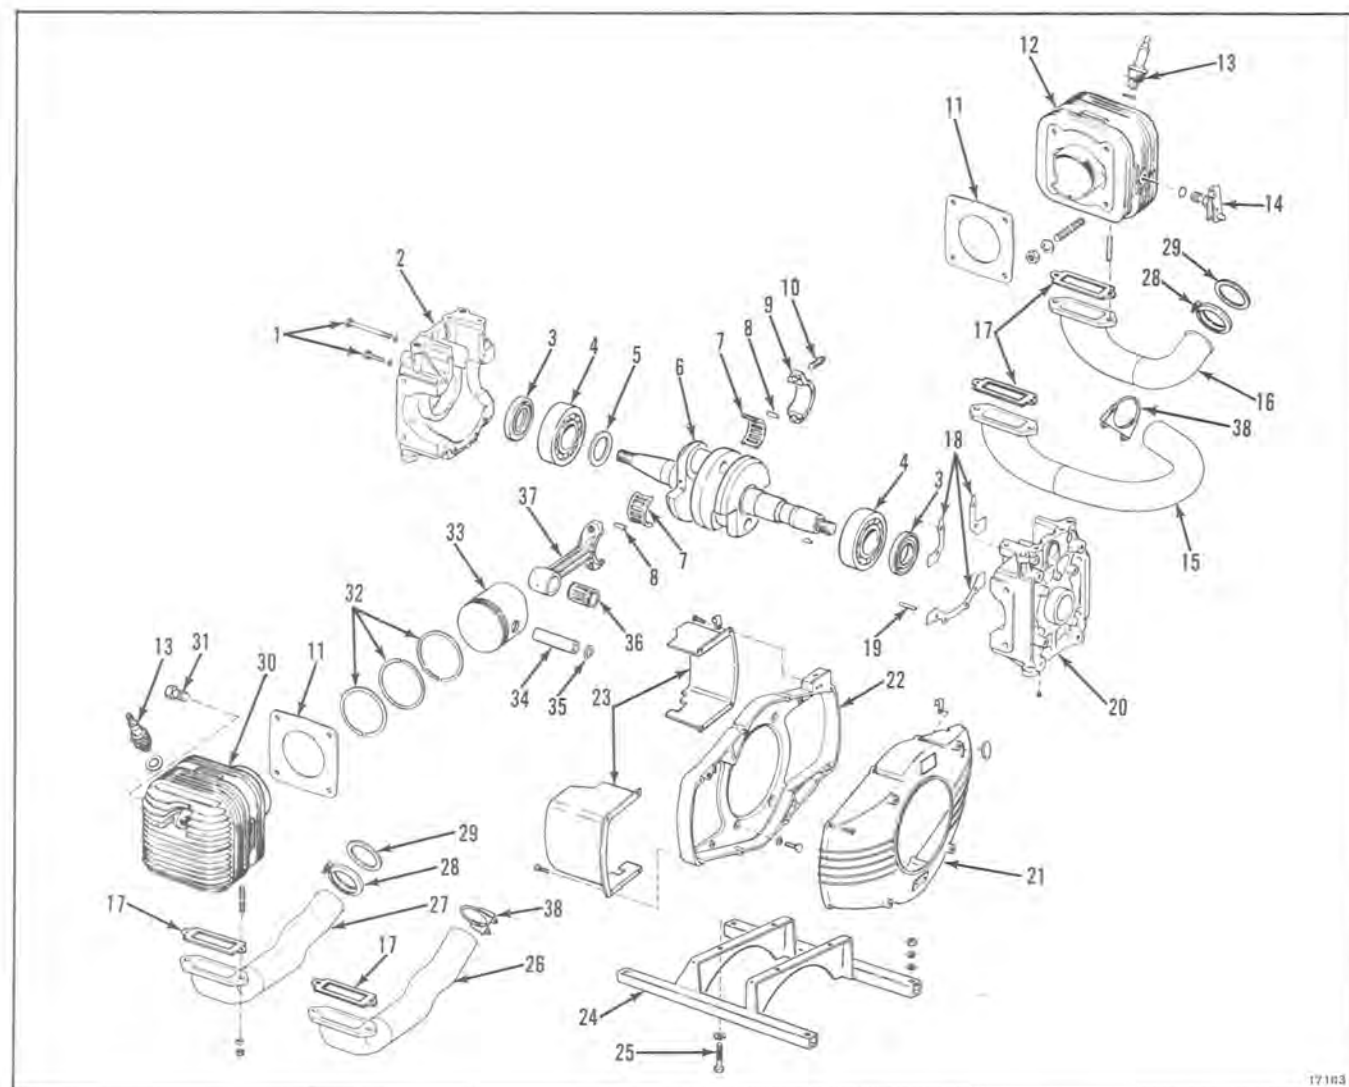

Figure 9-10
- j. Remove screws from crankcase halves and drive out two alignment roll pins. Heat up crankcase halves in bearing area to approximately 450°F. (IMPORTANT - when heating crankcase, be careful not to damage seals.) Tap crankcase with rawhide mallet to break seal, and separate crankcase halves. See Figure 9-10.